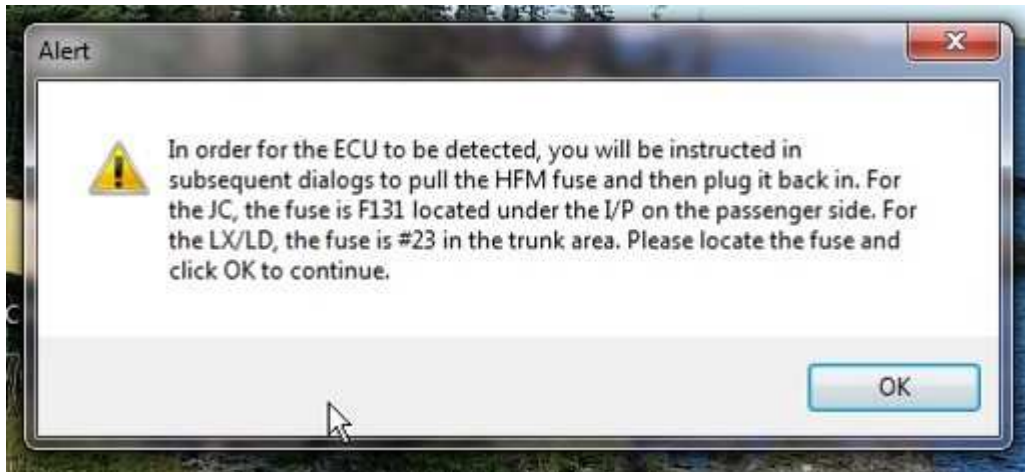

Fig. 9
8. Click the “OK” button after reading the content in the alert box (Fig. 9) .